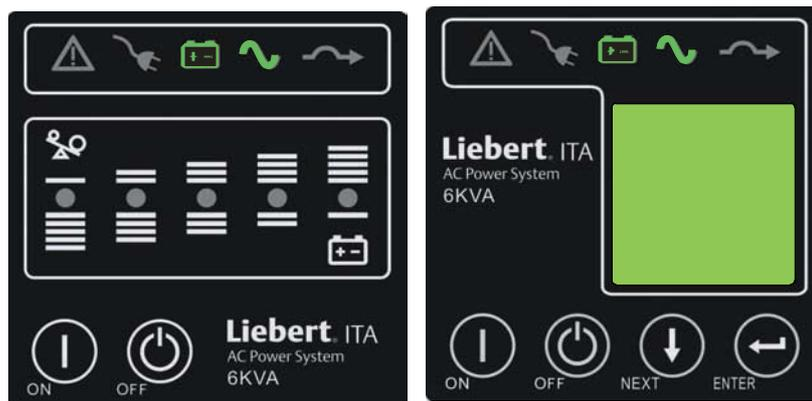

Figure 2-31 Indicators' status
2. Press the ON/SILENCE key for more than one second, and wait for thirty seconds, the UPS will enter the inverter standby mode automatically, the inverter indicator blinks. After the UPS has output, the inverter indicator will be on, as shown in Figure 2-31.